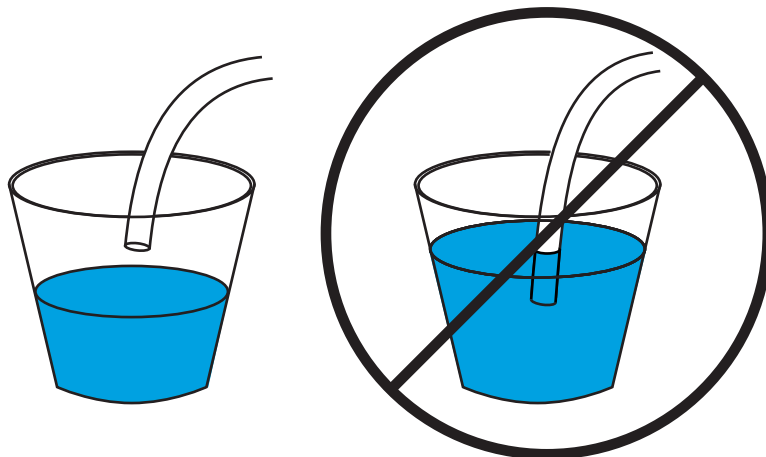

Figure 29 Drainage tube correctly hung (left) and incorrectly submersed (right)
- The open end of the tubing is not submersed in the drainage container (Figure 29).